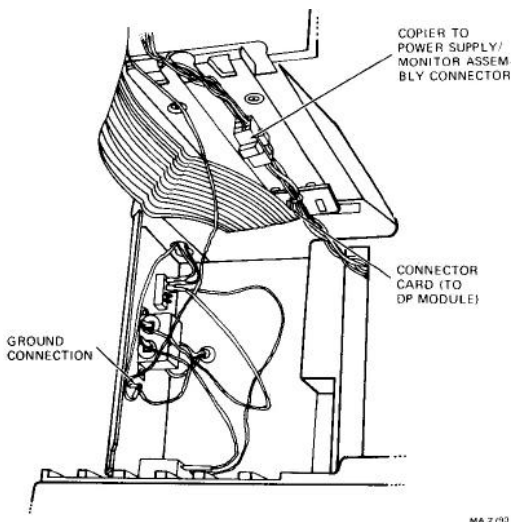

Figure 3-14 Copier Power and Signal Connectors
5. Remove the multi-pin copier connector card from the DP module (Figure 3-14).